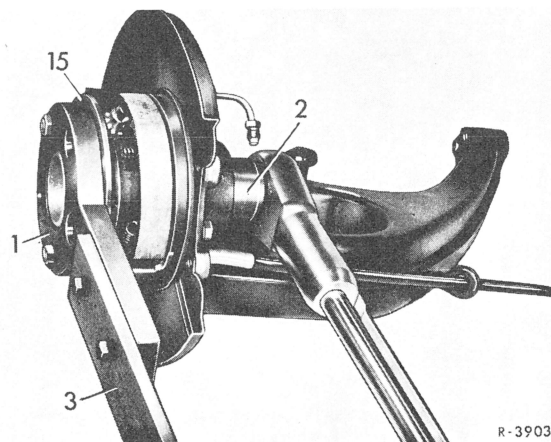

Fig. 4
Extension for assembly plate	Self-made acc. to Fig. 4
- 5 Unlock slotted nut on rear axle shaft flange. Attach assembly plate (1) with extension to rear axle shaft flange (15) and loosen slotted nut with slotted nut wrench (2) (Fig. 4).
**20** Attach assembly plate with extension to rear axle shaft flange (Fig. 4).